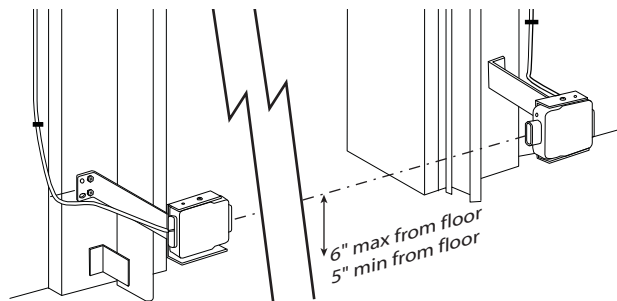

FIG. 5-4 Check Safe-T-Beam® alignment
Check Safe-T-Beam® alignment (Fig. 5-4).
- Insure that tops of lenses are between 5" - 6" above the floor (Fig. 5-4). The brackets are flexible, and can be adjusted slightly if needed.